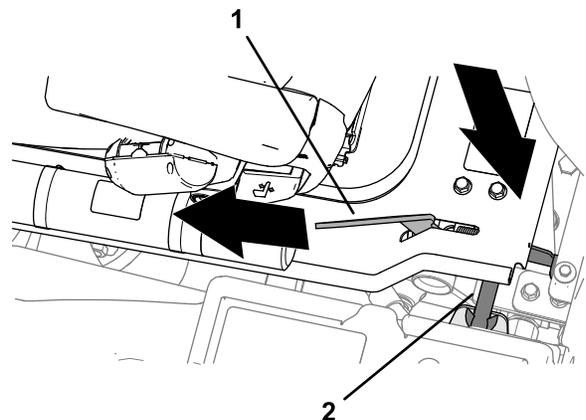

Figure 51
2. As the platform nears the fully lowered position, move the platform-latch handle (Figure 51) towards the front of the machine.